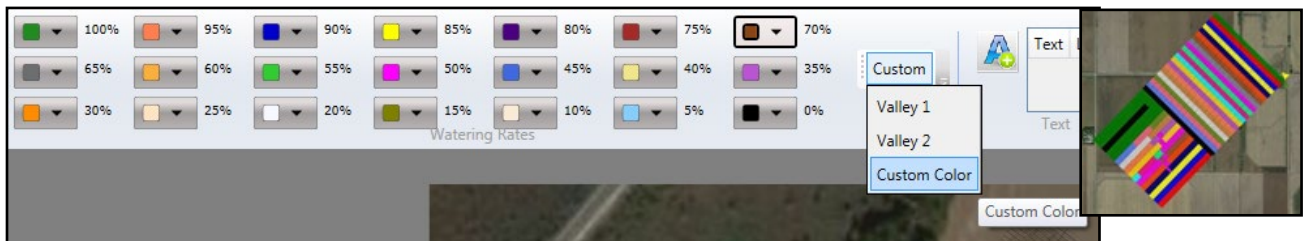

Figure 19-3
- (3) **Custom Color** (Figure 19-3) a user definable and savable color pallet.